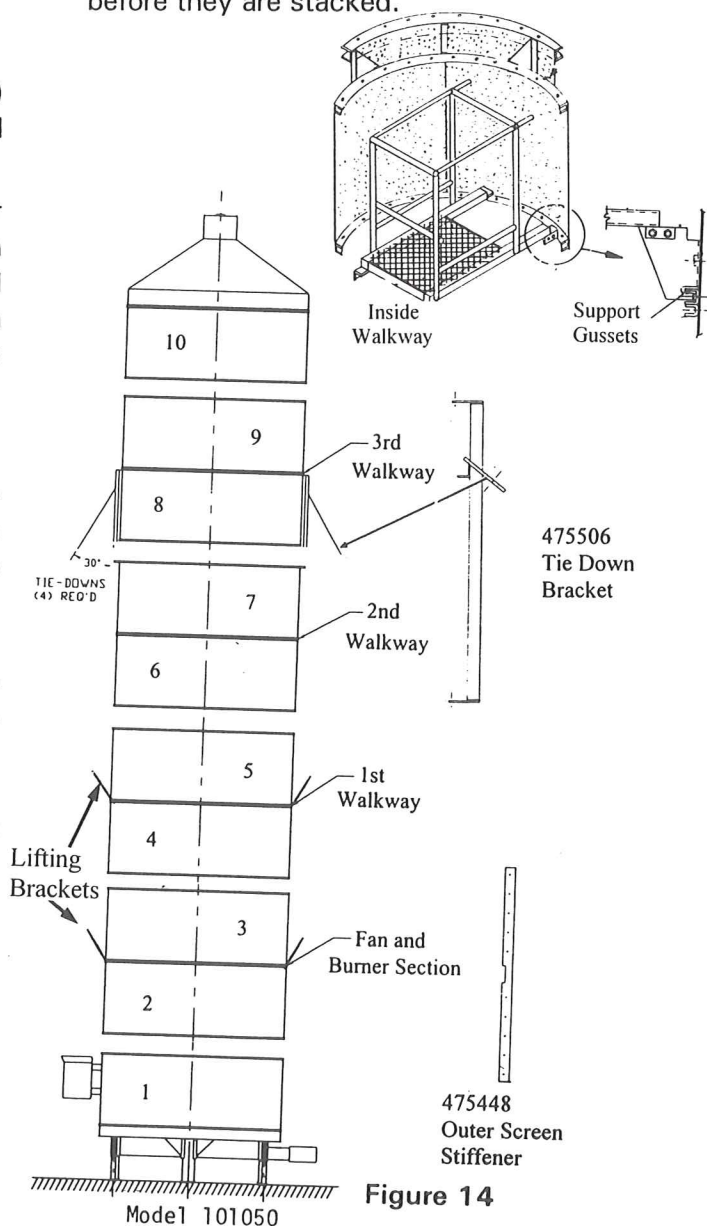

Figure 14
The 101050 Tower Dryer is shipped in (6) sections: Base, (4) Double Screen Sections, and (1) Screen with Top Section. See Figure 14.